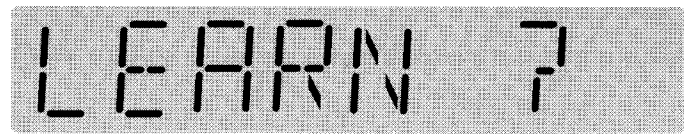

Figure 4-3 Learn Display
- Step 2:** The word **Learn** followed by a question mark (?) will appear in the **Function Display** (Figure 4-3). Press and release the **Select** pushbutton to make the Breaker Interface Module begin the learning process.
- Step 4:** Continue using the **Down** or **Next** pushbuttons to move to the **Update** display. To enter **Update**, press and release the **Select** pushbutton. **Learn ?** will appear in the **Function Display** (Figure 4-3).